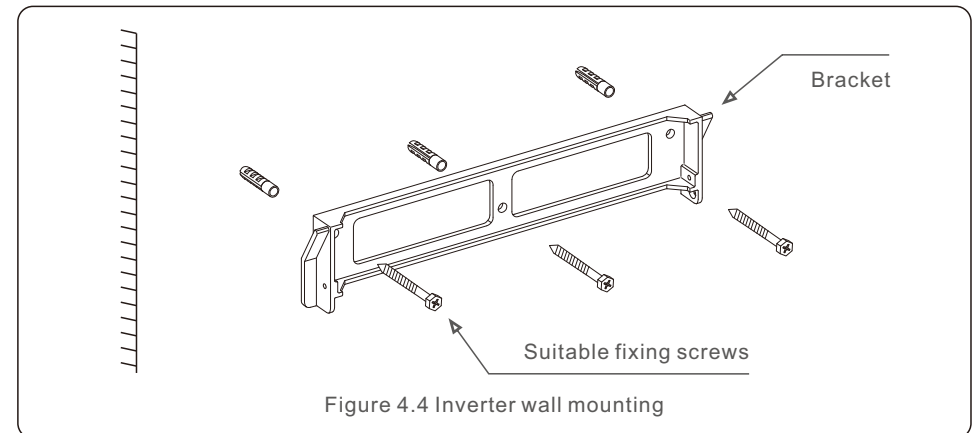
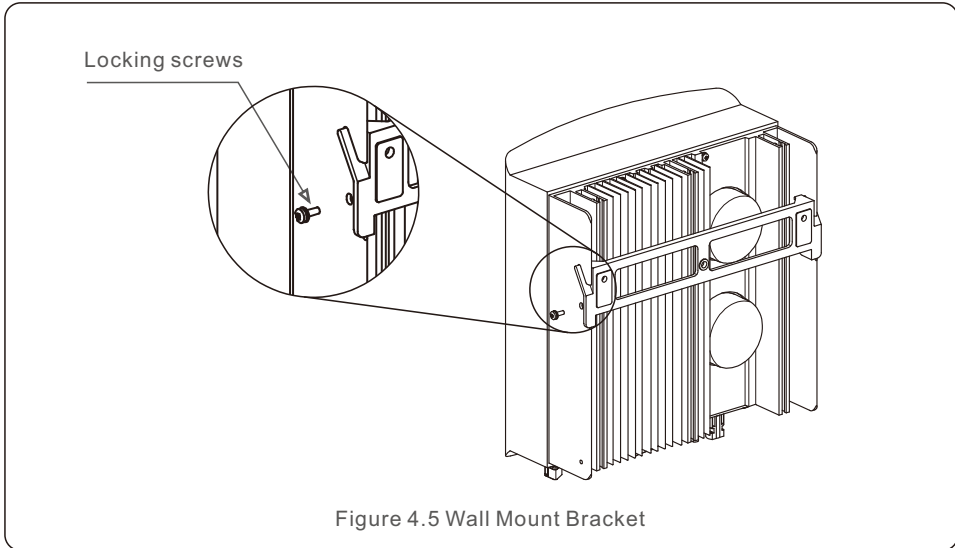

Figure 4.4 Inverter wall mounting
Figure 4.5 Wall Mount Bracket
Please see Figure 4.4 and Figure 4.5 for instruction on mounting the inverter. The inverter shall be mounted vertically. The steps to mount the inverter are listed below.
2. Make sure the bracket is horizontal. And the mounting holes (in Figure 4.4) are marked correctly. Drill the holes into wall at your marks.
4. Lift up the inverter (be careful to avoid body strain), and align the back bracket on the inverter with the convex section of the mounting bracket. Hang the inverter on the mounting bracket and make sure the inverter is secure (see Figure 4.5).